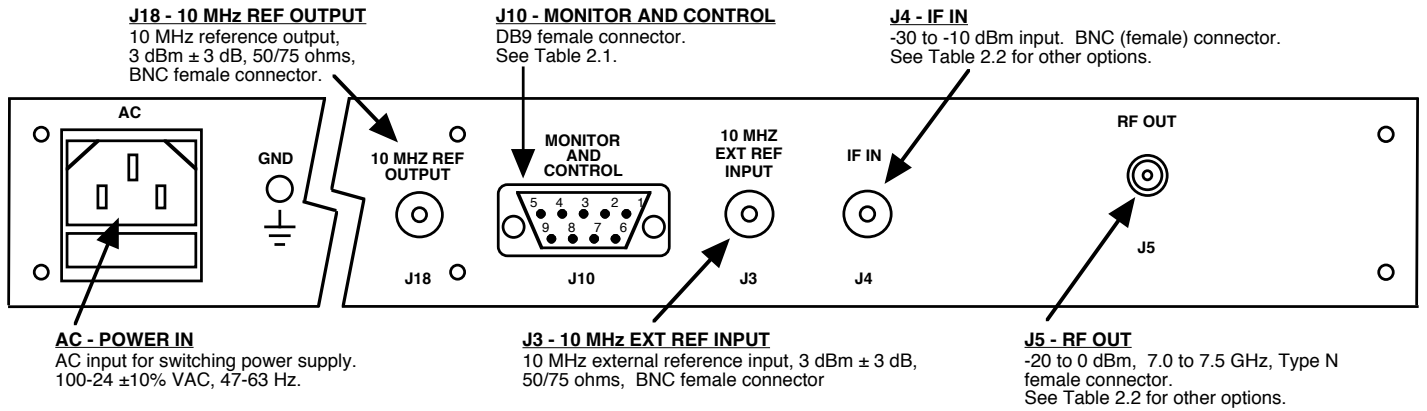

FIGURE 2.2 2015-7075 Rear Panel Inputs and Outputs
2.2 Rear Panel Input / Output Signals - Figure 2.2 shows the input and output connectors on the rear panel.
1. Connect a -30 dBm to -10 dBm, 70 MHz signal to IF IN, J4 (Figure 2.2)
Alarm indications appear on the LEDs (see figure 2.2).